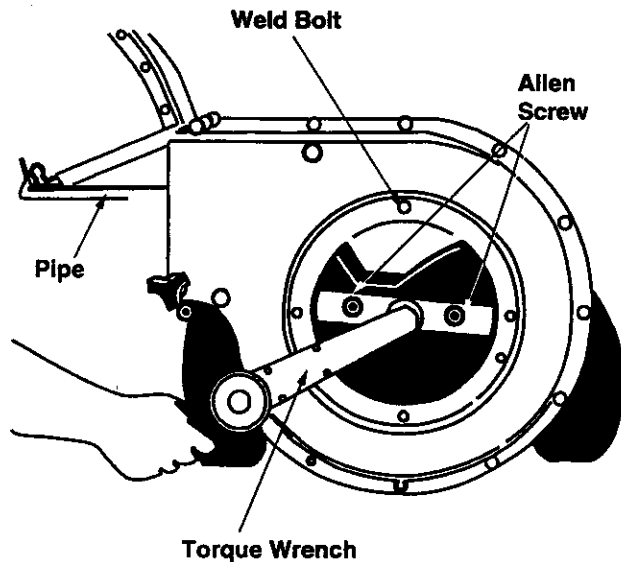

Figure 20
- Lower the hopper assembly. Block up the housing. See Figure 20.